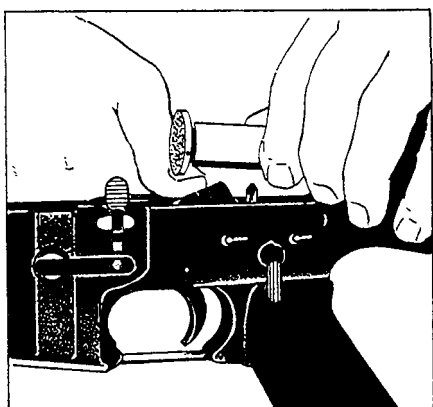

Figure 3-19.—Removing the buffer assembly and action spring.
the body of the buffer assembly has cleared the hammer, you can withdraw the action spring from the lower receiver (fig. 3-19, view B).
6. Push in on the buffer assembly, using the index finger of the left hand. With the nose of a cartridge or some similar object, push down on the buffer retainer (fig. 3-19, view A). To remove the buffer assembly, press the hammer downward past the cocked position. After